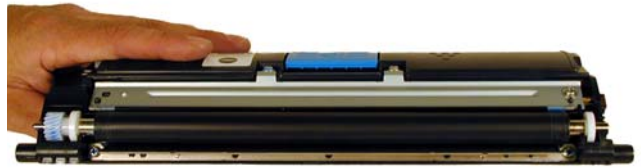

Figure 23
19) Install the developer roller assembly. See **Figure 23**